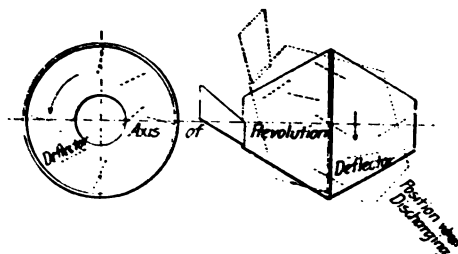

Fig. 2.
(2) A revolving drum formed by two cones (with horizontal axis), Fig. 2. This also has inside deflectors, can receive and discharge a batch without stopping, and the concrete is visible during mixing.